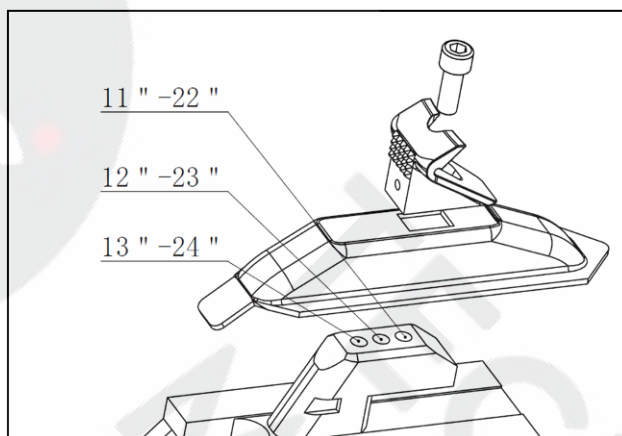

FIG1
- Like showing in FIG1, the model 887N/GT887N machine equips the adjustable turntable. The default setting is at the second gear (12"~23" & 14"~25") when leaves factory. The operator can adjust the different gear according to the FIG1 showing in order to mount and demount kinds of rims. (Note: the FIG1 shows the outward clamp range and must change the four clamp at the same time when change the gear).